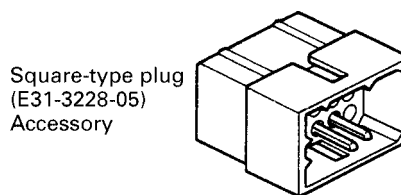

Fig. 4-1
1. Remove the connector with jumper from the external speaker connector on the rear panel of the radio. (Fig. 4-1)